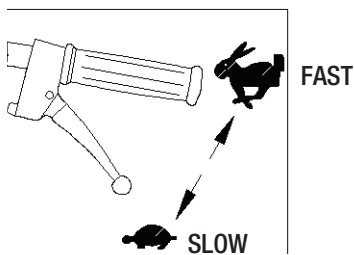

Figure 8
- Hold the throttle trigger fully depressed in fast position. (See Figure 8)
**NOTICE:** This cultivator is equipped with a centrifugal clutch, so the tines will not turn until the engine speed is increased. To increase the engine speed, lift up on the throttle trigger. (See Figure 8) To slow the engine down, slowly release the throttle trigger. Completely releasing the throttle lever will return the engine to idle and will stop the tines from rotating.
- Release the throttle trigger and allow the engine to idle for a few moments. (See Figure 8)